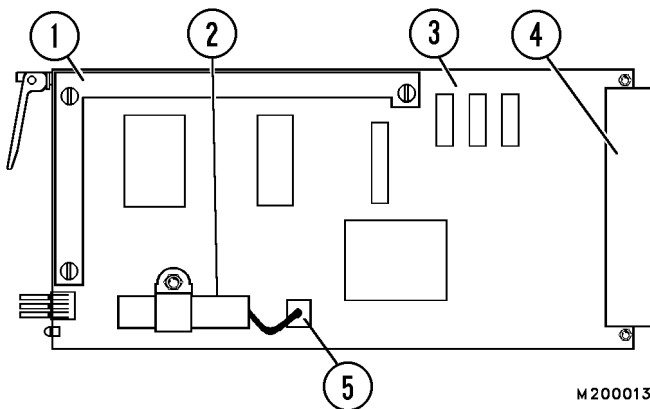

FIGURE 20-20. PAYLOAD MEMORY CARD
1. Carefully unplug battery connector (5, Figure 20-20) from payload memory card (3).
2. Remove nut, screw and washer and remove battery (2) from clamp.
4. Carefully plug battery connector (5) into payload memory card (3).